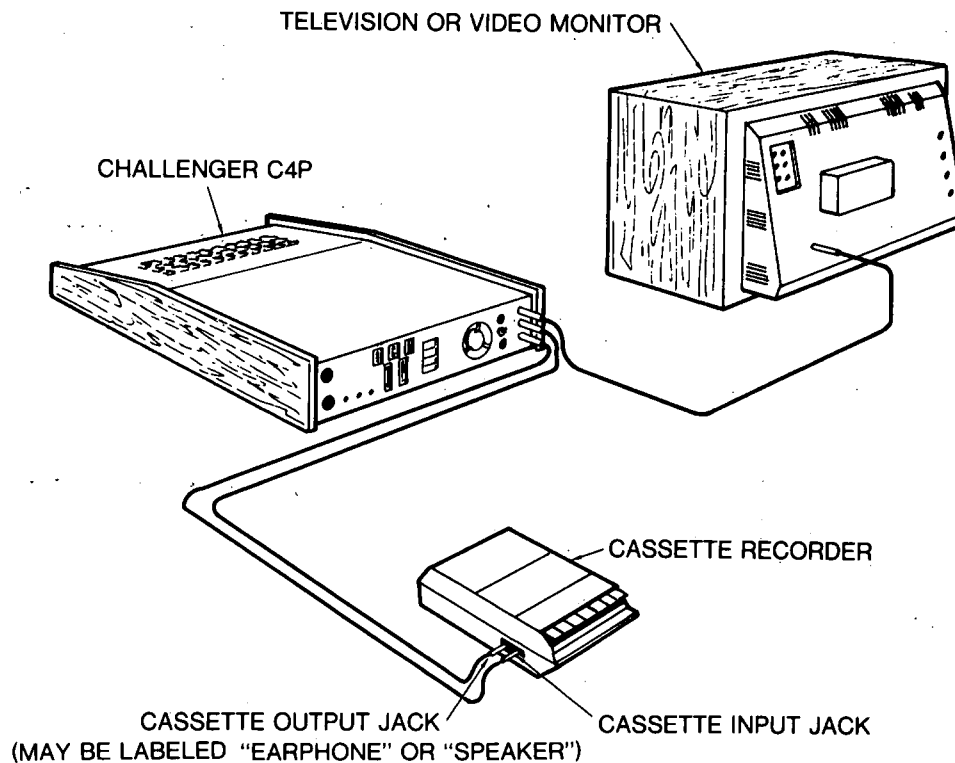

Fig. 2 Computer and Accessories
The cassette provides an economical bulk storage medium, though the data transfer rate is considerably lower than the disk's rate. The internal configuration of computer components is slightly different than the mini-floppy configuration. Externally, the computer and accessories should agree with Figure 2.
1. Assemble the computer system according to Figure 2. The use of OSI supplied cables will assure reliable and firm connections between units.